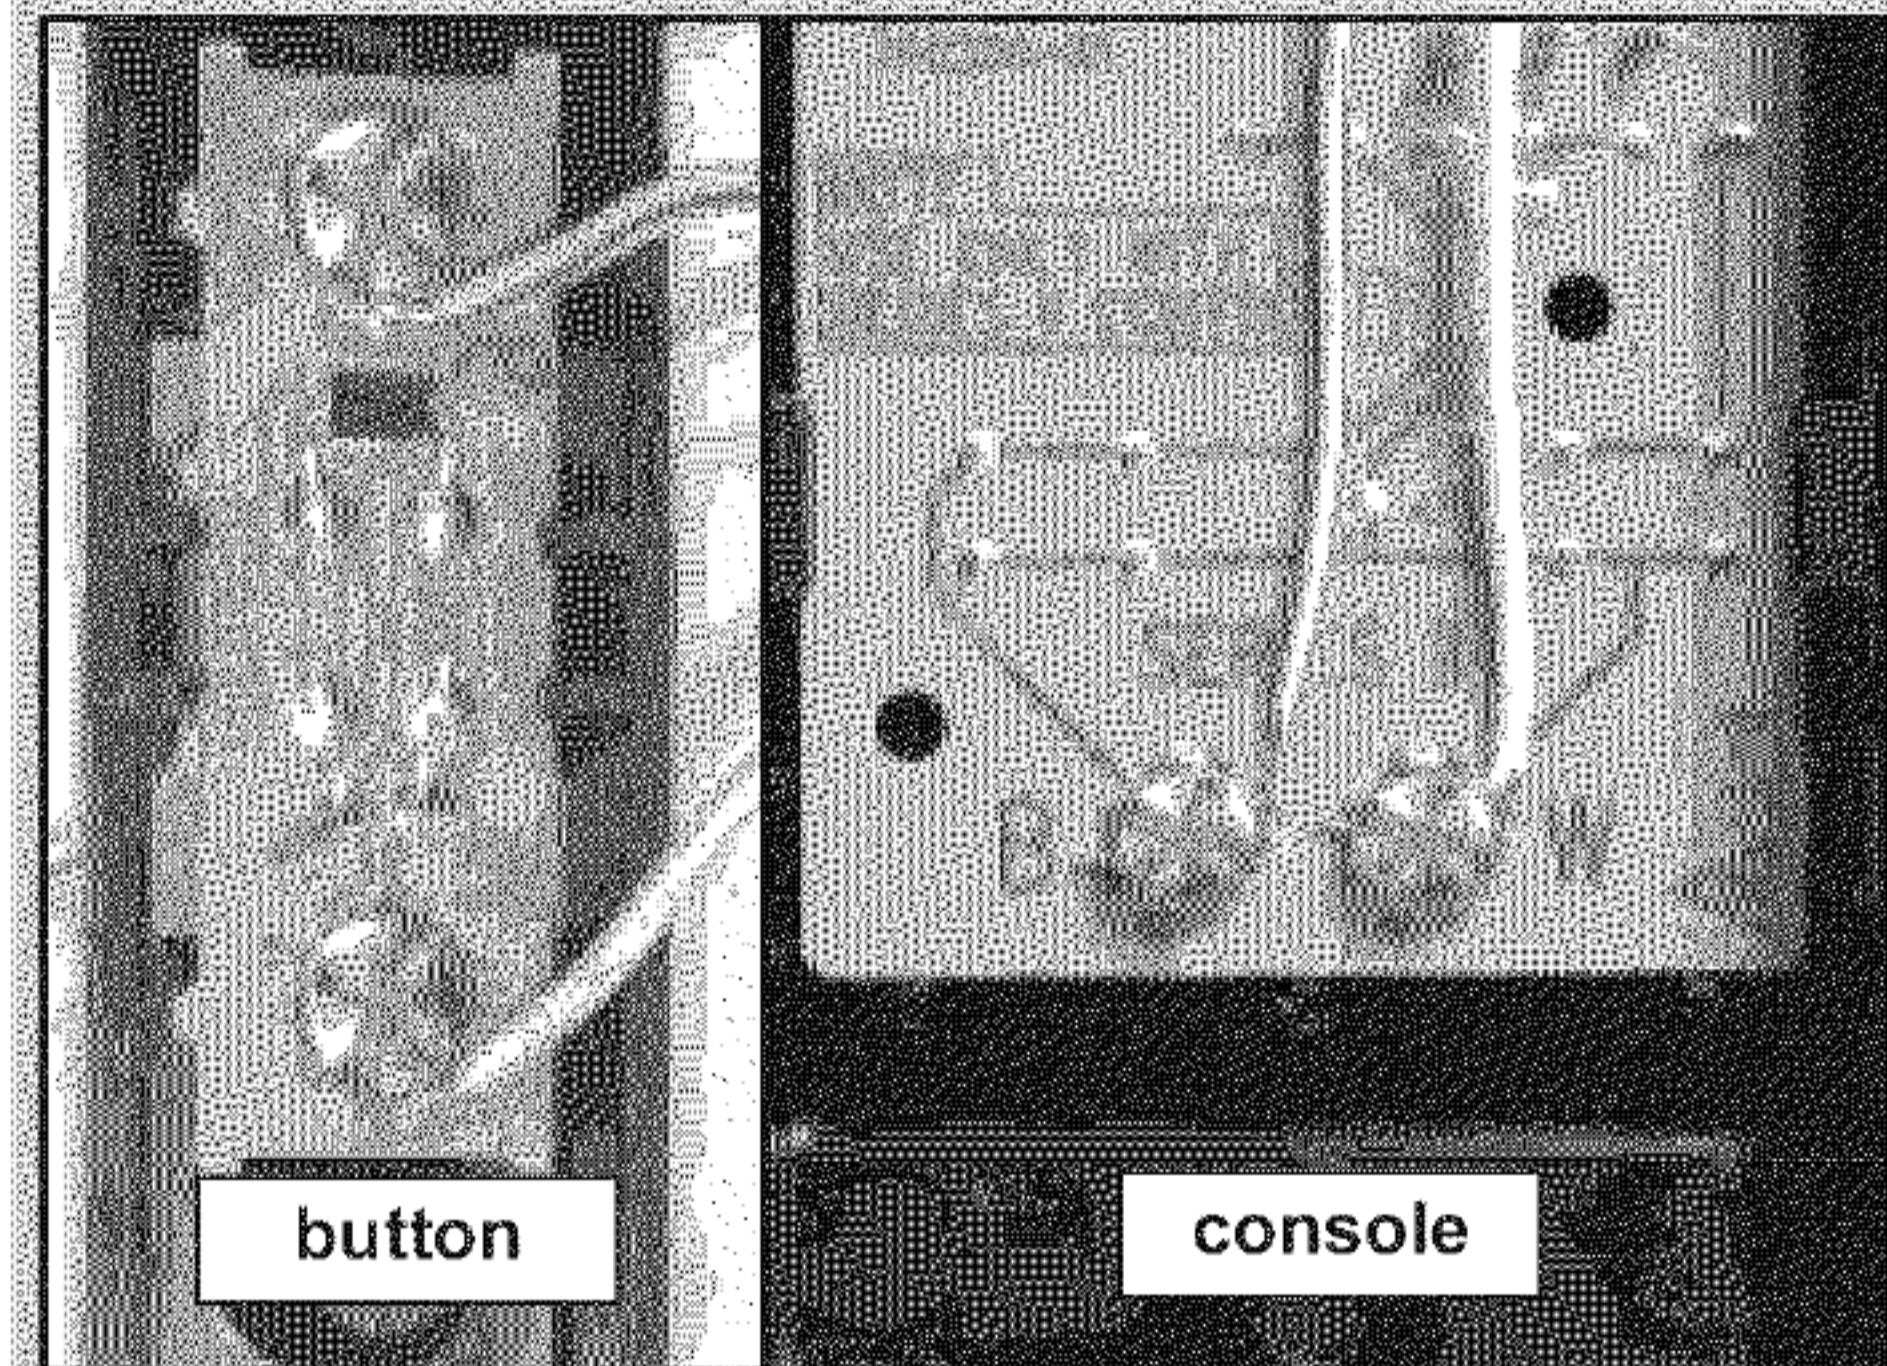

FIG. 5-2 Wall control wire attachment.
- Attach **striped wire to terminal "B"**, and **white wire to terminal "W."** (Fig. 5-2).